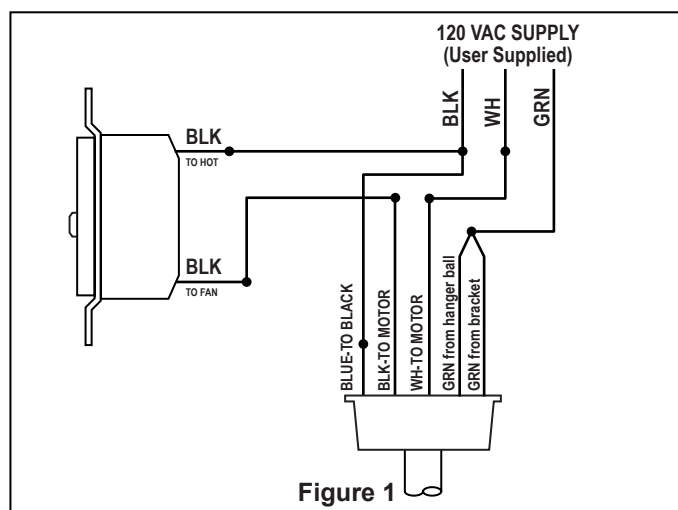

Figure 1
1. Installing Wall Control (Figures 1 & 2):
- Make wiring connections with wire nuts as shown in Figure 1.